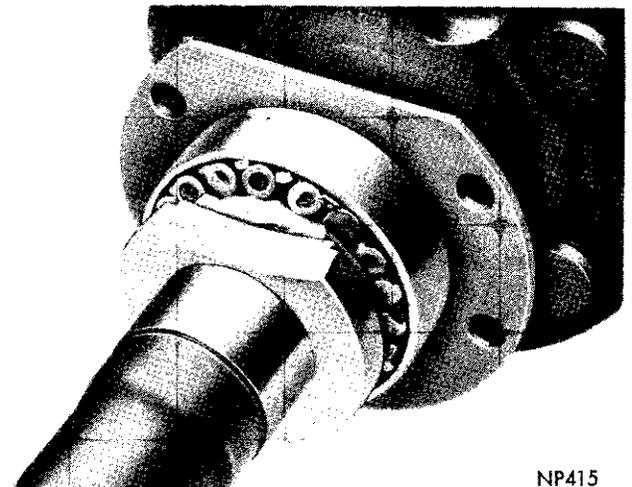

Fig. 14—Collar and Inner Race Ground Prior to Removal (Imperial)
(3) Grind axle shaft collar in one position to approximate thickness of protective sleeve SP-5041. At same time grind a portion of inner bearing race so bearing rollers can be removed (Fig. 14).
(4) Position axle shaft bearing retaining collar on a heavy vise or anvil and using a chisel, cut a groove into collar at position that you previously ground. Collar should split, which in turn will enlarge bearing bore and permit collar to be driven off of axle shaft.